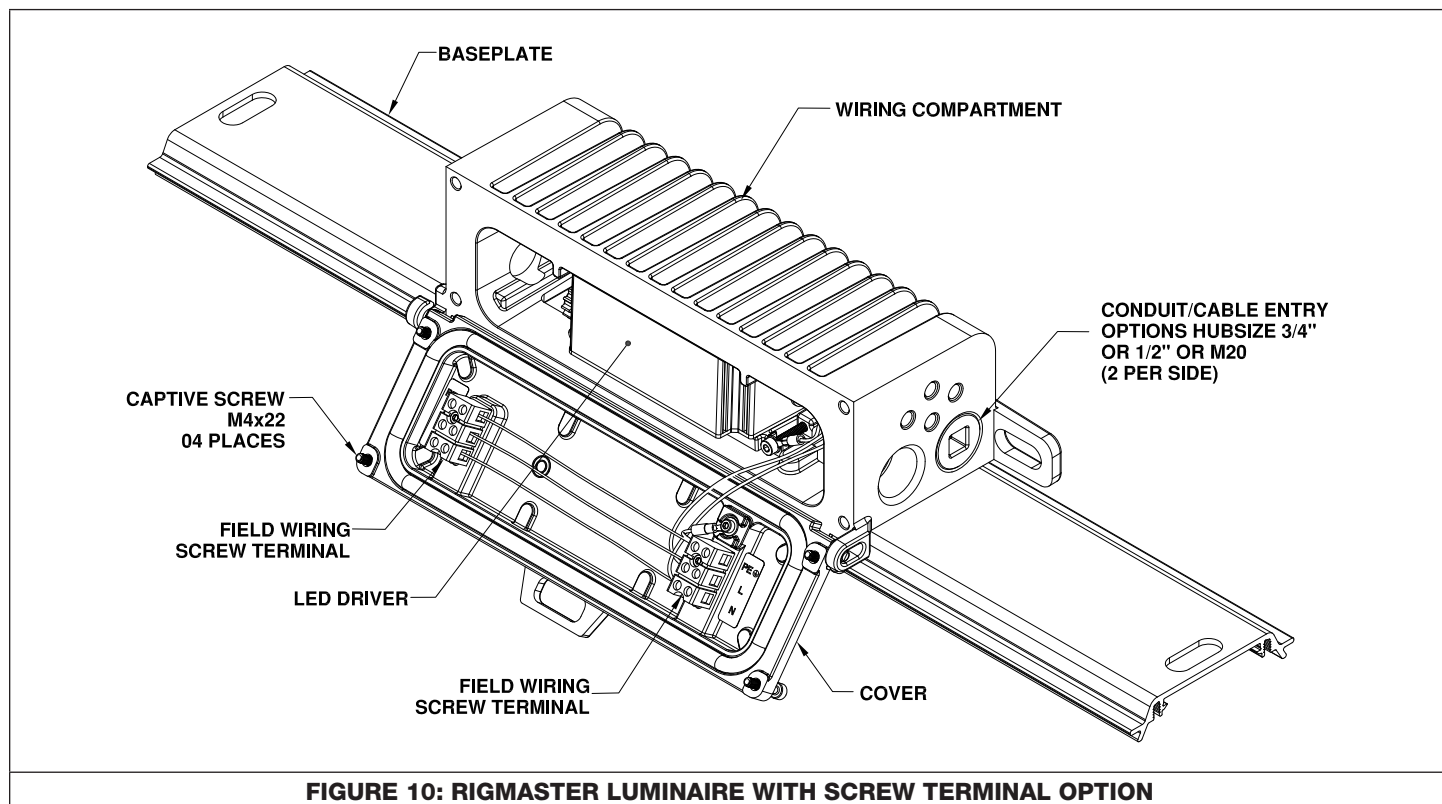

FIGURE 10: RIGMASTER LUMINAIRE WITH SCREW TERMINAL OPTION
2. Open the luminaire wiring compartment by loosening the four captive screws. Allow the cover to swing open, enabling access to the wiring compartment. See Figure 10.
4. Strip the individual wires by approximately 5 mm (0.2 in) and insert them into the proper terminal block connections. The connection points are identified on the terminal block as: "L" = Line, "N" = Neutral, and "PE" = Ground. Tighten down the terminal block screws onto the wire with torque of 0.75 N.m (6.5 Lb.in) See Figure 10.